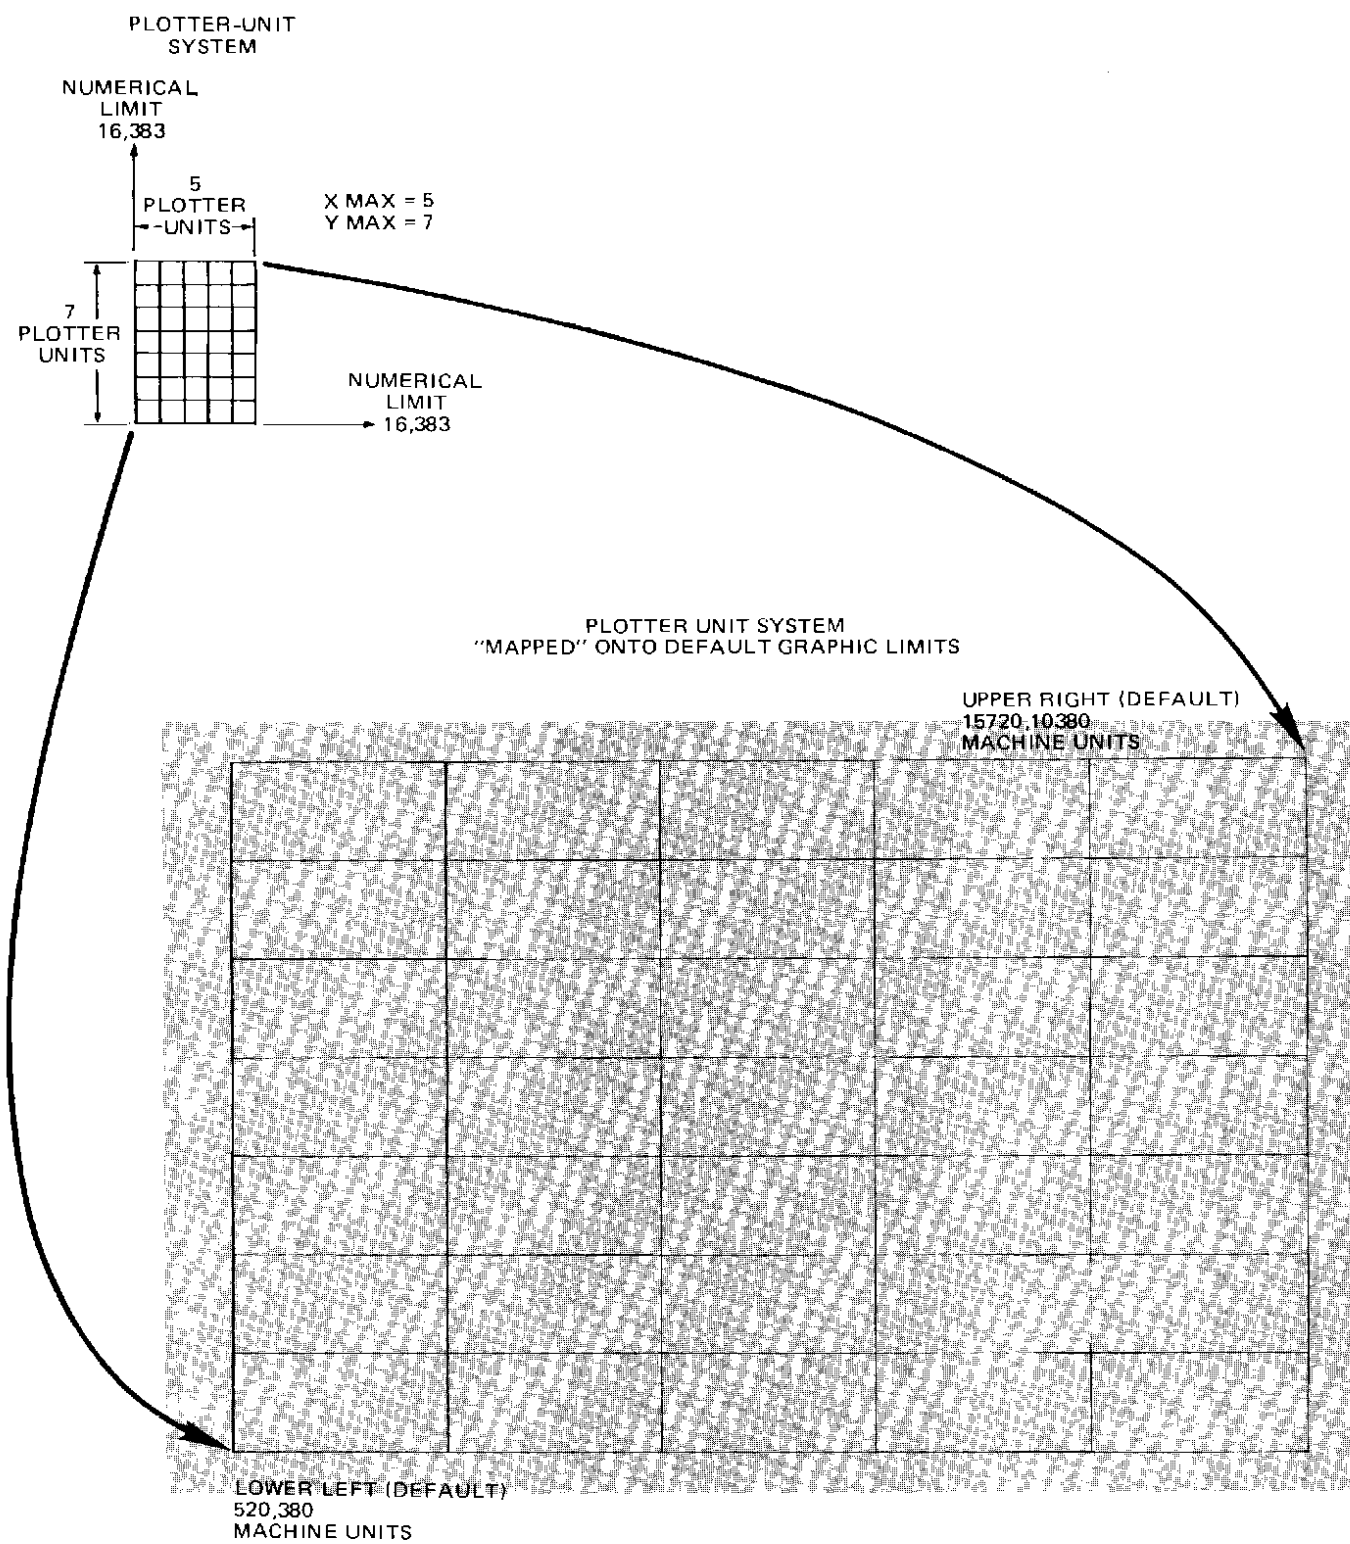

Figure 4-2. Setting a Grid Within Default Graphic Limits
Grid size establishes full-scale plotter units, which are the number of units between the point of origin of a plot (0, 0) and the full scale values of the X and Y axes (Xmax, Ymax). As an example, a grid of 5 x 7 has 5 plotter units in the X-axis and 7 units in the Y-axis as shown in Figure 4-2. The plotter units establish resolution of a plot, and affect the number of data bytes required to generate a plot. Numerical limits of 16,383 plotter units can be handled in either axis; however, the maximum plotter resolution is .025 mm even when finer resolution is specified by a user.
**Result** Establishes a 5 x 7 grid within the default graphic limits as shown in Figure 4-2. Graphic positions on the plot surface include only integer coordinates in the grid system. If the pen is moved with the front-panel arrow controls to positions other than an integer coordinate, the pen will be forced to the nearest graphic position when the arrow pushbutton is released.